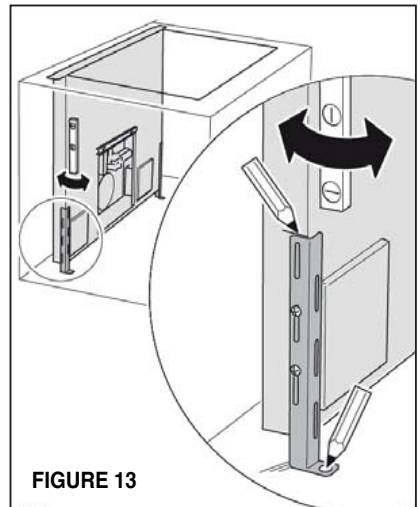

FIGURE 13
7) (See FIGURE 13) Level and align the hood in the cabinet. Push the bottom mounting bracket on each side down against the cabinet floor. Mark the top edge of the mounting bracket on the housing and the mounting holes on the cabinet floor.